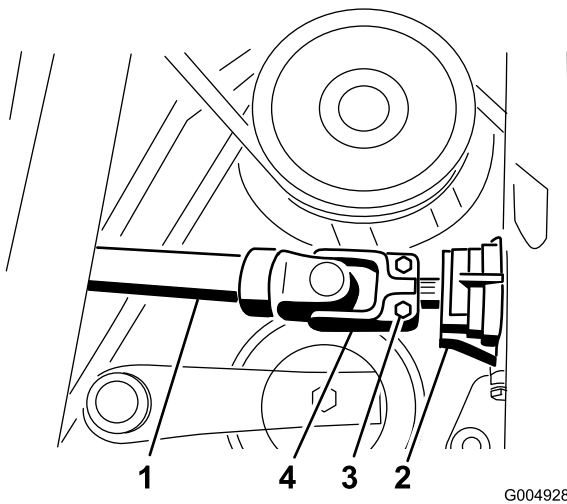

Figure 103
13. Remove the roll pin and loosen the two capscrews securing the drive shaft to the gearbox shaft (Figure 103). Slide the drive shaft off the gearbox shaft.